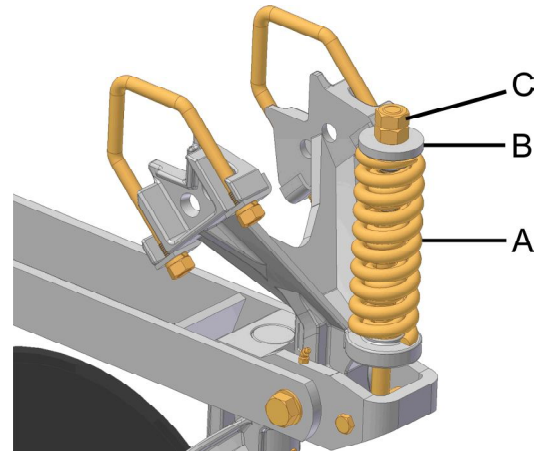

fig. 22
The depth of the cutting disc is determined by increasing the pressure of the spring (A) (fig. 22) through the displacement with key guide (B), being it locked through the nut (C). Note that the measurement set should be the same in all the springs of the lines.